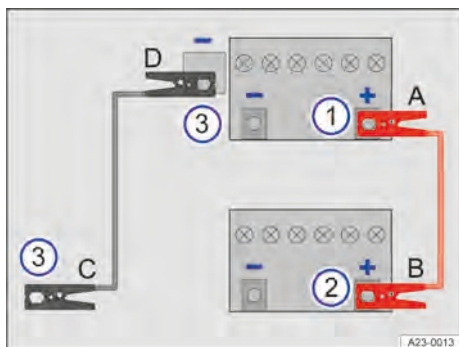

Fig. 197 How to connect the jump leads.
The jump leads must be connected only in the order A – B – C – D → Fig. 197.
2. Connect one end of the red jump lead to the positive jump-start connection point in the vehicle with the discharged 12-volt vehicle battery → Fig. 197 ①.
3. Connect the other end of the red jump lead to the positive terminal of the vehicle providing assistance → Fig. 197 ②.
4. Connect one end of the black jump lead preferably to an earth jump-start connection point → Fig. 197 ③ on the vehicle with the 12-volt vehicle battery that is supplying power.
Or: if there is no earth jump-start connection point, connect the end of the black jump lead to a solid metal part that is bolted securely to the cylinder block or to the cylinder block itself on the vehicle with the 12-volt vehicle battery that is supplying power → Fig. 197 ③.
5. Connect the other end of the black jump lead to the earth jump-start connection point on the vehicle with the discharged 12-volt vehicle battery → Fig. 197 ③.
Or: if there is no earth jump-start connection point, connect the end of the black jump lead to a solid metal part that is bolted securely to the cylinder block or to the cylinder block itself on the vehicle with the discharged 12-volt vehicle battery → Fig. 197 ③.